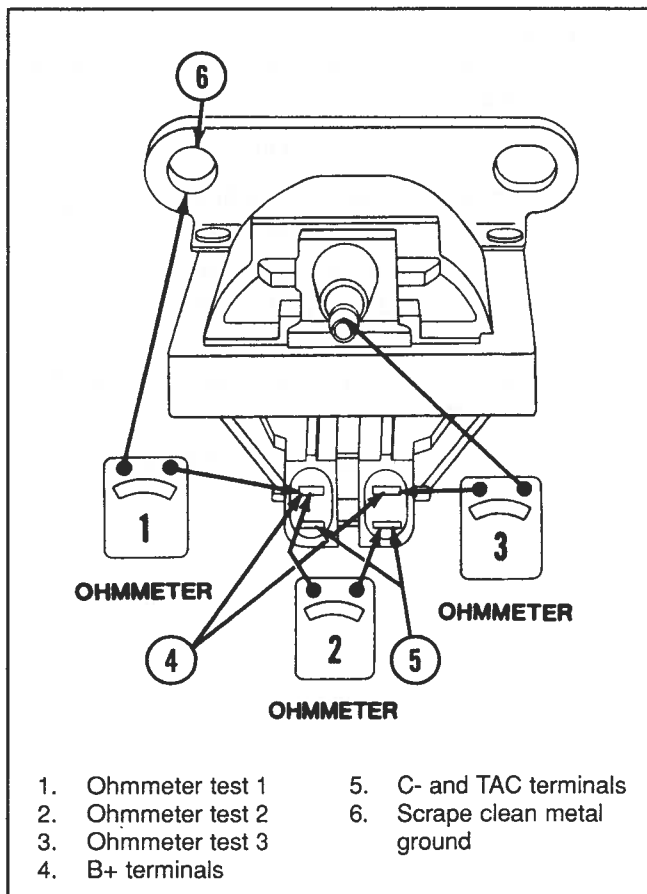

Figure 6-58. Testing Ignition Coil
1. Connect ohmmeter between "B+" or "C-" terminals and ground (coil-mounting bracket). On high scale, reading should be infinite (Test 1). See Figure 6-58.
2. Connect ohmmeter between "B+" and "C-" terminals. On low scale, reading should be nearly zero (approximately 0.4 ohm) (Test 2). See Figure 6-58.
3. Connect ohmmeter between "B+" or "C-" terminals and coil high-voltage tower. On high scale, reading should be approximately 8000 ohms. Reading should not be infinite. See Figure 6-58.